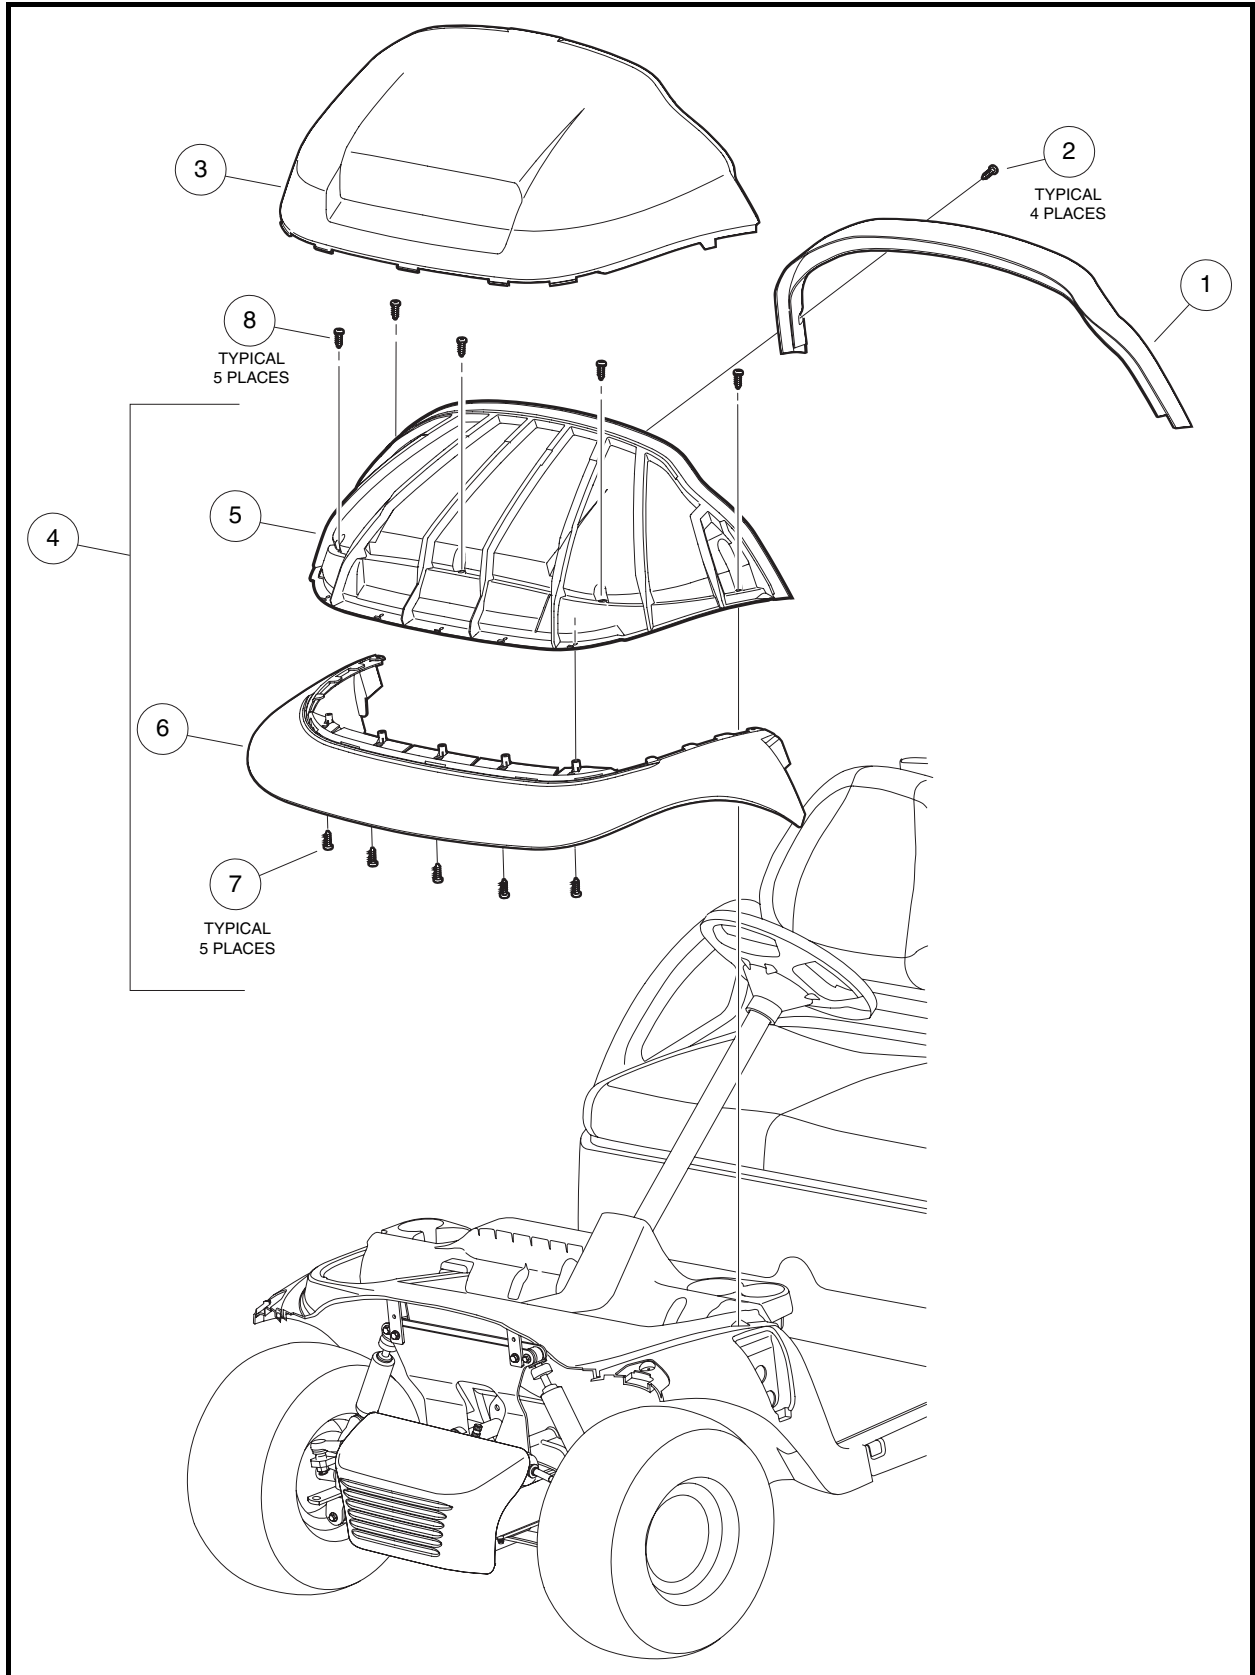

Figure 4-1 Front Body
1. Remove the four screws (2) and pull the brow cap (1) from the brow and fascia assembly (4) (**Figure 4-1, Page 4-3**).
2. Pull the front beauty panel (3) up and away from the brow and fascia assembly (4), disengaging the snap tabs.
4. Remove the five screws (8) and lift the brow and fascia assembly (4) from the front underbody.
5. Remove the five screws (7) to separate the front fascia (6) from the brow (5).